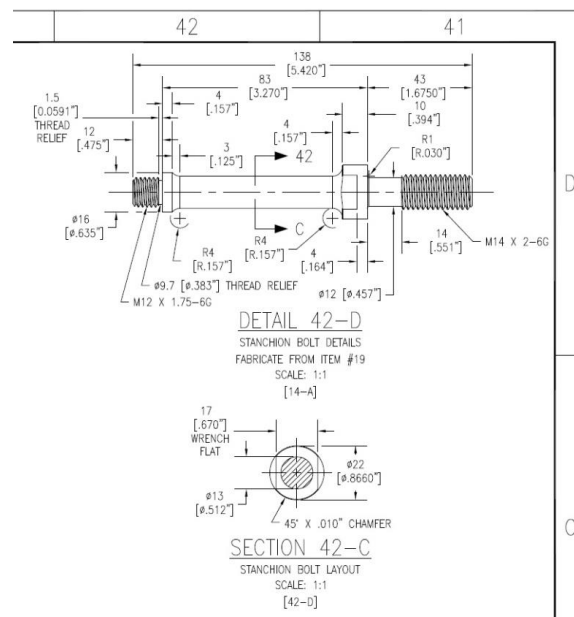

FIGURE 2: CALLOUT IDENTIFICATION FOR CROSS-SECTIONAL VIEWS (NOT TO SCALE – FOR ILLUSTRATION PURPOSES ONLY)
3.28.1 Cross-section views must be identified by the zone number where the cross-section is detailed. The cross-section leaders on the source object must be identified by the Callout location of the detail. See Figure 2.